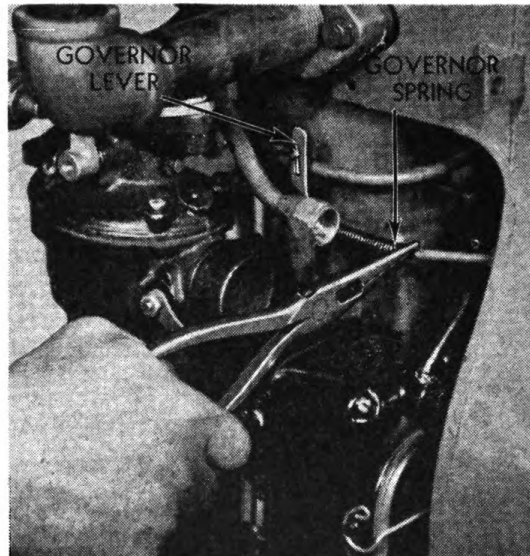

Figure 51
g. The maximum speed of the engine is controlled by a centrifugal type governor located inside the crankcase of the engine. It controls the speed of the engine (when the compressor is loaded) by varying the throttle opening on the carburetor to suit the load imposed on the engine. In order to give close regulation, the governor spring (See Figure 51) must be suited to the speed required (approximately 1800 R.P.M.). The proper spring to use is Wisconsin No. PM-141. It should be hooked into hole No. 1 or 2 in governor lever.